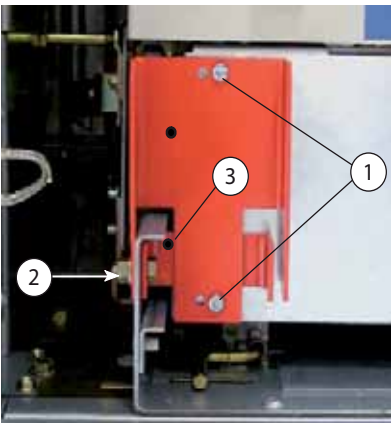

Fig. 4.5
- Release the two bolts (Fig. 4.5, 1).
- Release lock bolts M8x25 (2).
- Remove transport lock (3).
- Reinsert the two bolts (1).